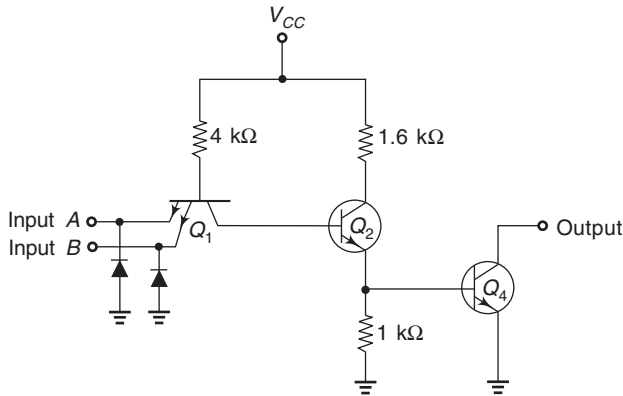

Fig. 9.27 TTL NAND with an Open-collector Output.
Instead of using a totem-pole arrangement in the output stage of a TTL gate, yet another arrangement, called the *open-collector (OC) output* is available. With the totem-pole output stage, for a LOW output the lower transistor is ON and the upper transistor is OFF, and vice versa for a HIGH output. *With the open-collector output the upper transistor is removed*, as shown in Fig. 9.27. Now the output will be LOW when Q_4 is ON and the output will *float* (not HIGH or LOW) when Q_4 is OFF. This means that *an open-collector output can sink current, but it cannot source current*.